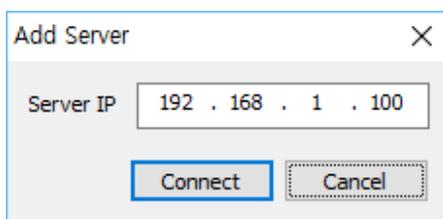

Figure 2.20 Add Server
- The server may not be found depending on the security environment of the private network. A server can be manually added in that case. Click the "Add Server" button first, and then enter the IP address of the server received from the administrator as shown in Figure 2.20 and click the "Connect" button.